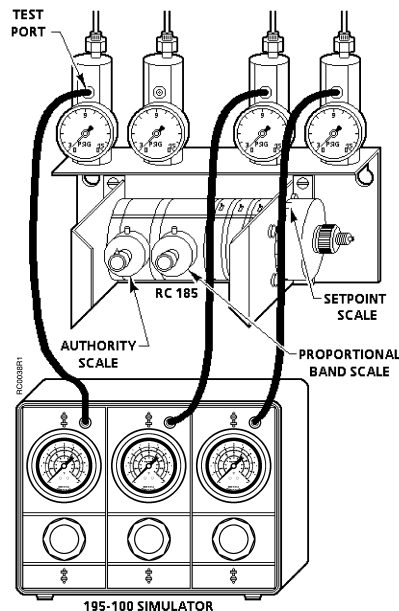

Figure 2. RC 185 Receiver-Controller with Simulator (195-100 Three-Transmitter, Obsolete).
1. Stand the simulator on its rubber feet. The gauges must be vertical. See Figure 2.